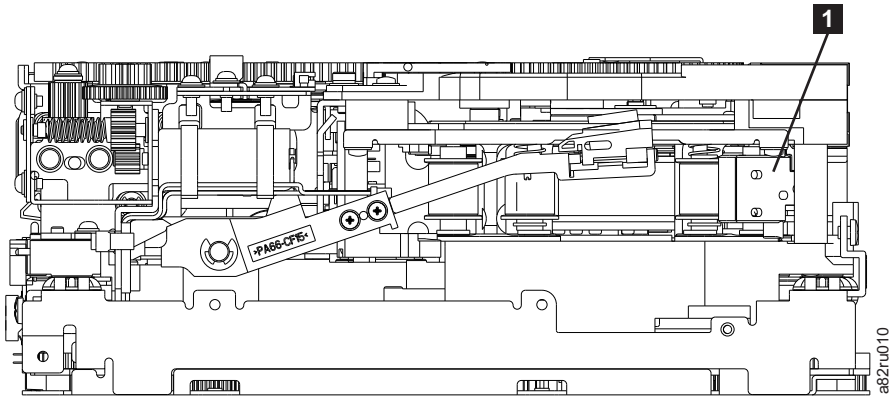

Figure A-11. Leader Block Assembly (LBA)
9. Rotate the threader motor worm gear ( **4** in Figure A-10 on page A-13) to turn the threader mechanism gear ( **6** in Figure A-10 on page A-13) counterclockwise. This moves the LBA out of the cartridge and past the read/write head. Stop this rotation when the LBA is near the tape guide roller nearest the rear of the drive shown as **1** Figure A-11.